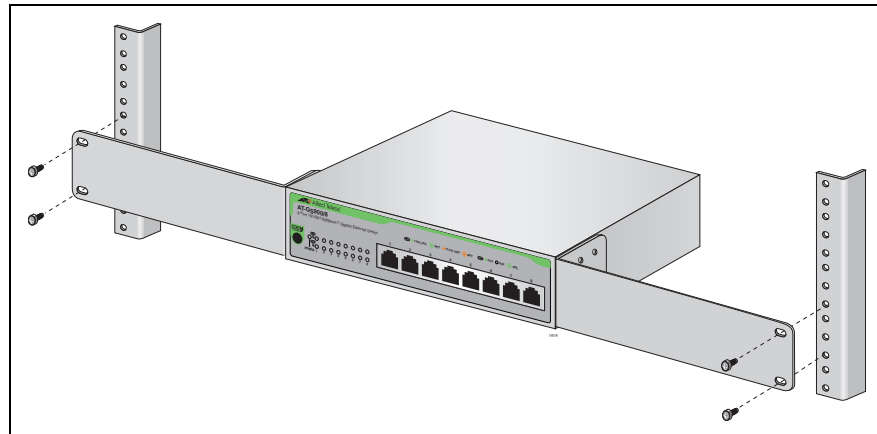

Figure 11. Rack Mounting the Switch
5. Mount the switch in the 19-inch rack using the #10-32 Phillips screws which are shipped with the product, as illustrated in Figure 11.